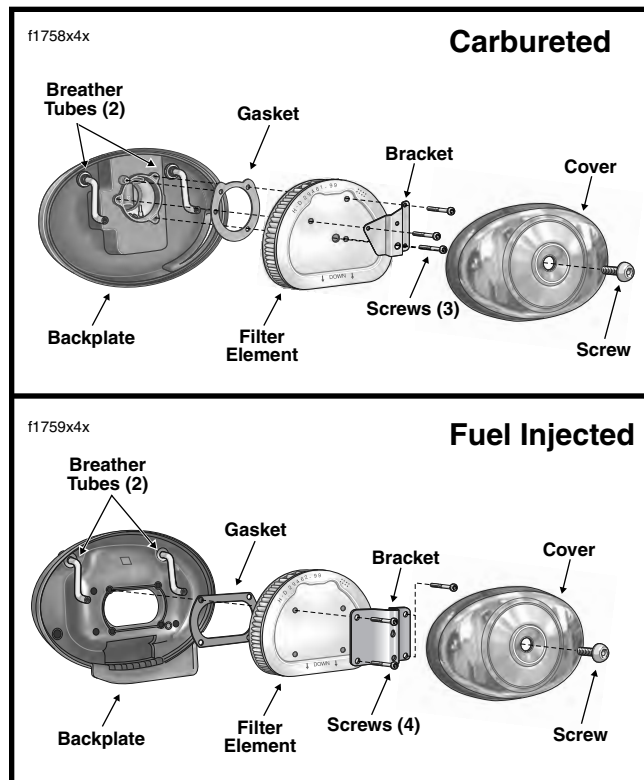

Figure 33. Air Cleaner Assembly
1. Remove Allen head screw and air cleaner cover. See Figure 33.